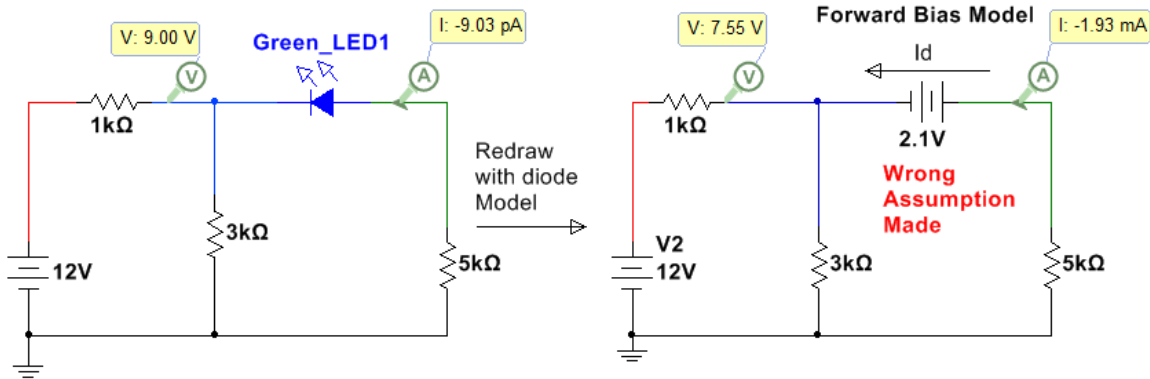

Figure 6.7: Circuit for Example 6.4 with the **wrong assumption made**.
- Solving this matrix yields $I_2 = 1.93 \text{ mA}$ (clockwise). $I_D = -I_2 = \mathbf{-1.93 \text{ mA}}$ (This is verified in Multisim in Figure 6.7)
- **Note:** The probe values in the left circuit of Figure 6.7 with the green LED are way different because the wrong assumption was made.